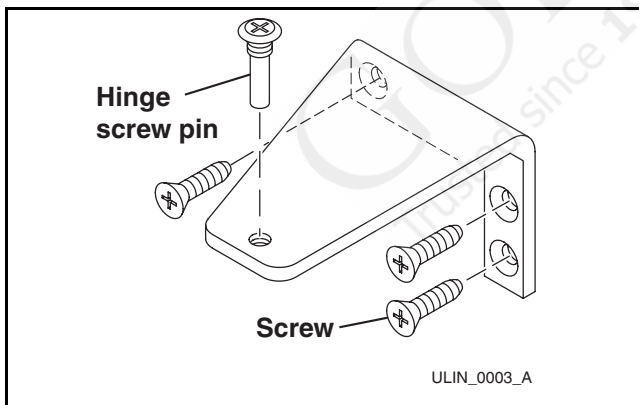

Figure 34
1. Remove top hinge screw pin (**Figure 34**) from door using a Phillips screwdriver. Remove door by tilting forward and lifting off bottom hinge pin.
3. Remove top hinge (three screws) and reinstall hinge screw pin (**Figure 34**).